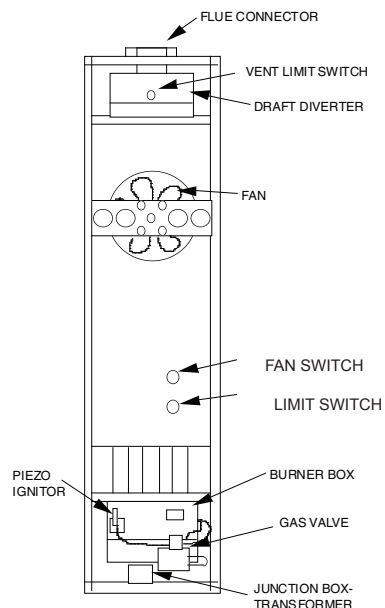

Figure 14
2. To check for line voltage to furnace, remove front panel and short across two-terminal fan control to allow fan to operate (Figure 14).